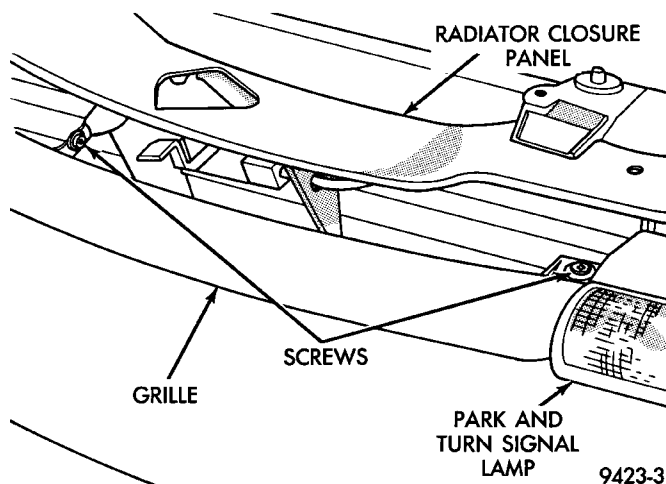

Fig. 1 Grille
(1) Release hood latch, open and support hood on prop rod.
- (2) Remove screws holding grille to parking lamps (Fig. 1).
- (3) Remove screw holding grille to radiator closure panel.
- (4) Separate grille from vehicle.